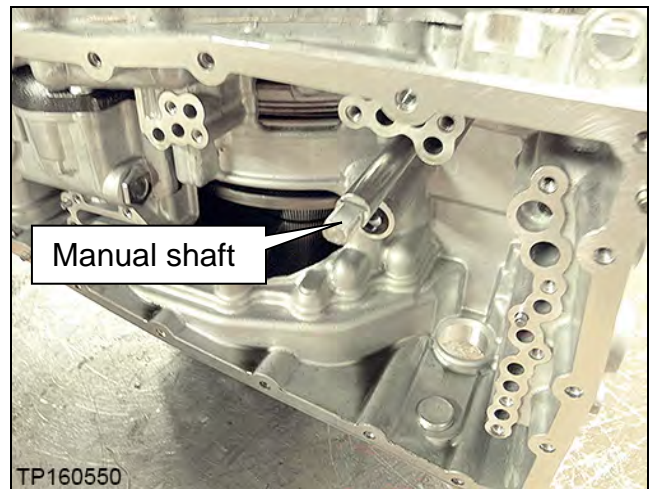

Figure 3E
- Do not hit the manual shaft (Figure 3E) while flipping the CVT; the manual shaft protrudes past the CVT case. Use a plastic / wooden block to support as needed.